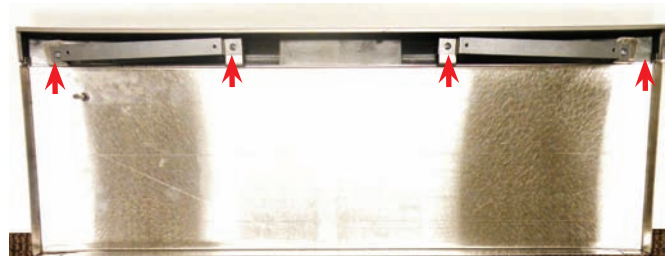

Fig 19
2. To remove the **Drawer Handle**, with the front cover off, remove the four (4) screws from the brackets and lift off the handle (**Fig 19**). Reverse this procedure to reinstall new part.